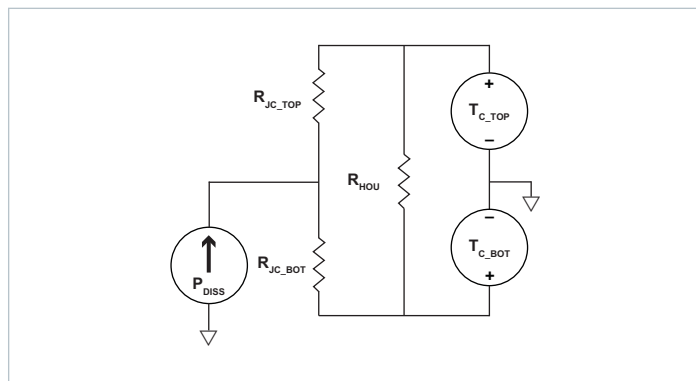
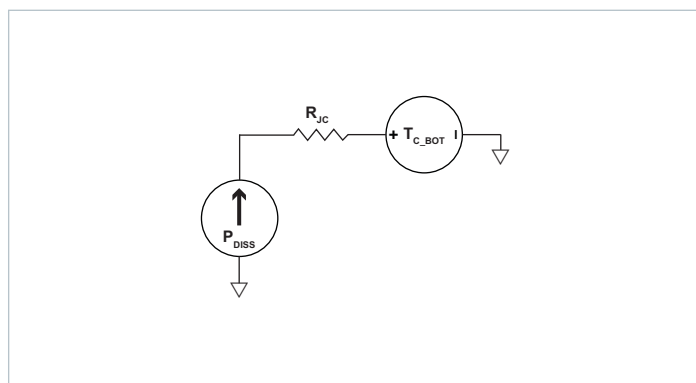

Figure 21 – Double sided cooling VIA thermal model
Figure 22 – Single-sided cooling VIA thermal model
to simplify the thermal solution into a roughly equivalent circuit where power dissipation is modeled as a current source, isothermal surface temperatures are represented as voltage sources and the thermal resistances are represented as resistors. Figure 21 shows the "thermal circuit" for the VIA module.
- Single side cooling: the model of Figure 21 can be simplified by calculating the parallel resistor network and using one simple thermal resistance number and the internal power dissipation curves; an example for bottom side cooling only is shown in Figure 22.